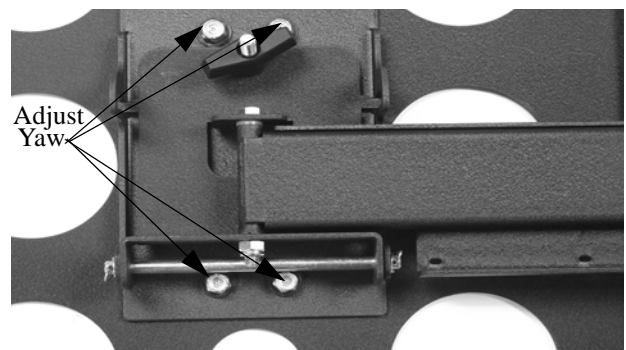

FIGURE 7. ADJUST ROLL
1. Loosen four 5/16-18 hex head bolts (see Figure 7).